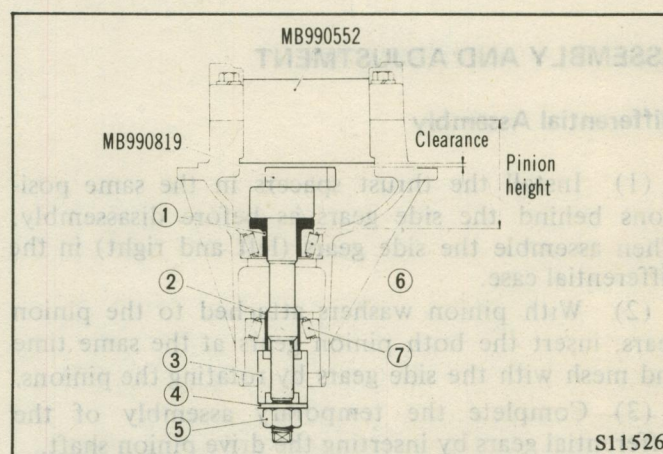

Fig. 31 Measuring Pinion Height (Clearance)
(2) Install the parts ①, ⑥, ②, ⑦, ③, ④ and ⑤ as assembled in this order with special tool (MB990819) into the gear carrier, (Fig. 31) Gradually tighten nut to produce 0.7 to 1.0 Nm (6 to 9 in-lbs.) without oil seal.